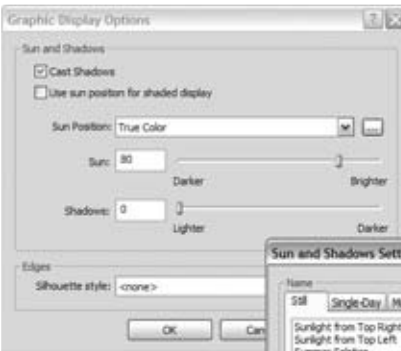

Figure 8.24
3. Make sure the Relative to View check box is selected (see Figure 8.24).